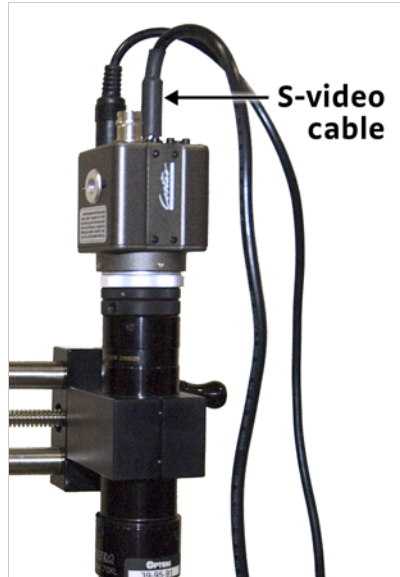

FIGURE 3-10 Attach the s-video cable to the microscope
- b. S-video cable: connect one end to the top of the microscope as well. It will align in only one direction for the connection (FIGURE 3-10). Attach the other end of this cable into the s-video connection on the monitor.